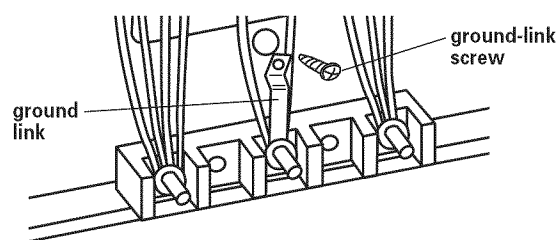

Figure 4
7. Remove the ground-link screw from the range frame. Save the ground-link screw. Bend up the ground link so that it does not contact the range. See Figure 4.